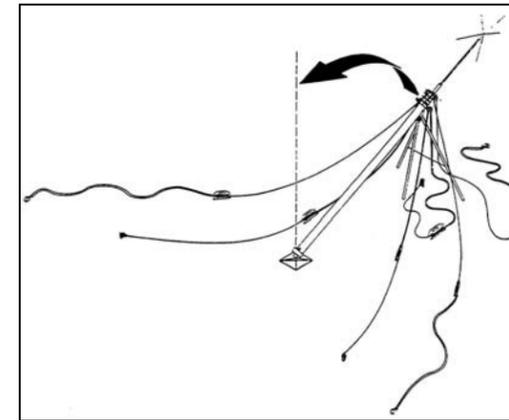

Figure 7
15. Raise the mast to a vertical position and verify that the gearbox is securely seated on the base plate. See Fig. 5 and Fig. 7.